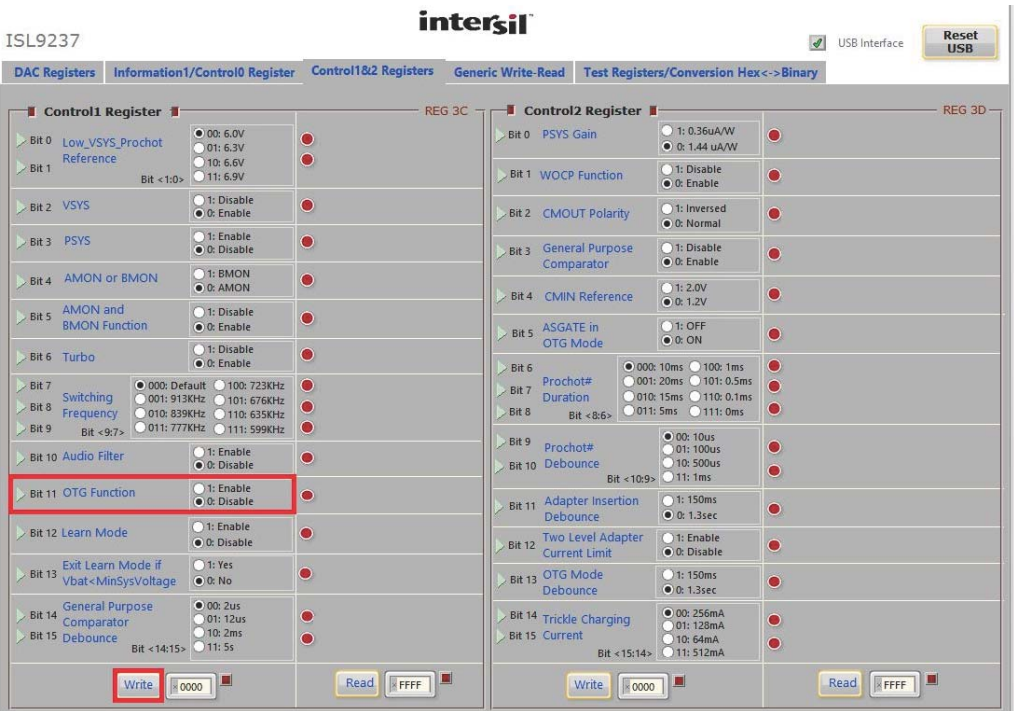

FIGURE 5. OTG FUNCTION ENABLE
5. Select the “Control1&2 registers” tab, enable the OTG function at Control1 register, then click the “Write” button, as shown in Figure 5 on page 5.
6. Switch SW2 on the evaluation board to the HI position; the load voltage is regulated as an OTGVoltage value, set in Figure 5, and the LED 3 light is on, which means the OTG function is enabled.